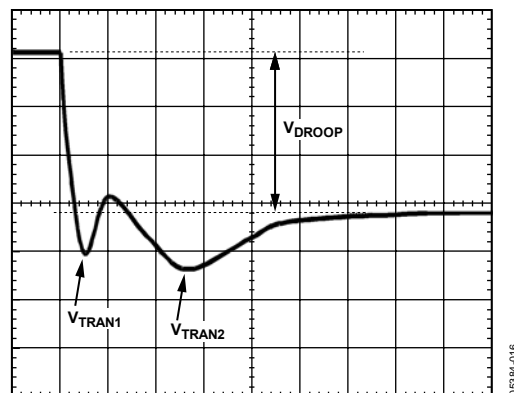
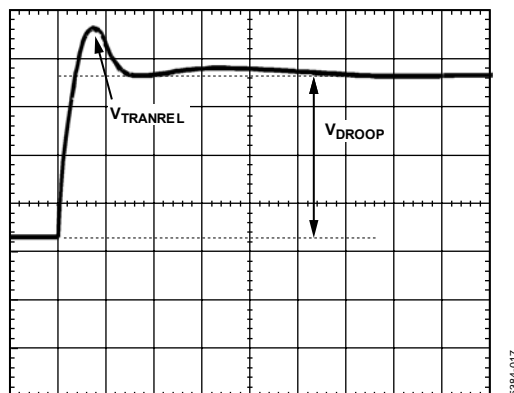

Figure 15. Transient Setting Waveform
Figure 16. Transient Setting Waveform
18. With the dynamic load still set at the maximum step size, expand the scope time scale to see 2  $\mu\text{s}/\text{div}$  to 5  $\mu\text{s}/\text{div}$ . The waveform may have two overshoots and one minor undershoot (see Figure 15). Here,  $V_{DROOP}$  is the final desired value.
20. For load release (see Figure 16), if  $V_{TRANREL}$  is larger than  $V_{TRAN1}$  (see Figure 15), there is not enough output capacitance. Either more capacitance is needed or the inductor values need to be smaller. If inductors are changed, start the design again using the spreadsheet and this tuning procedure.